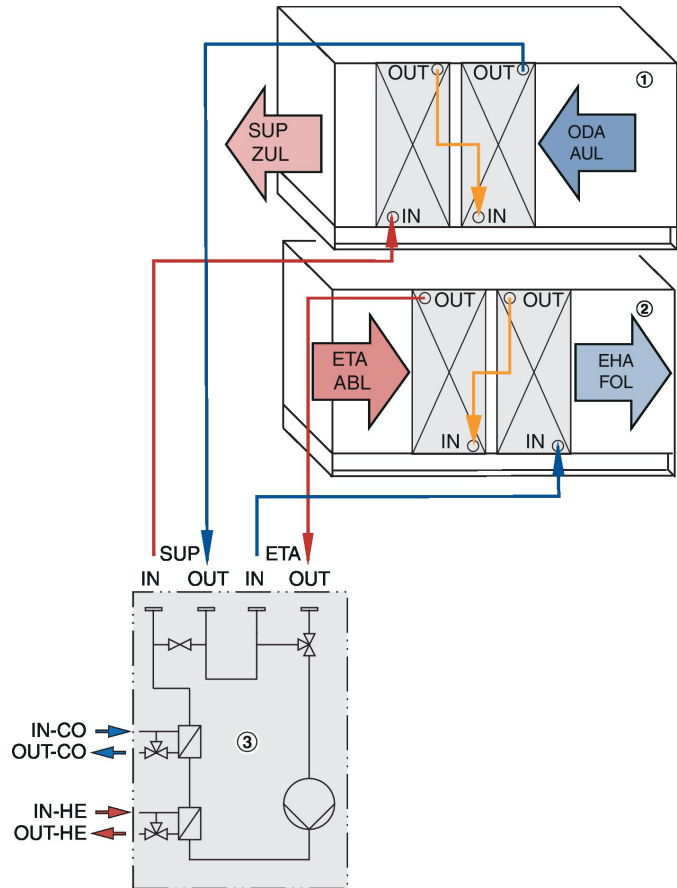

Fig. 35: Hydraulic system connection (example)
- ① Supply air unit
- ② Extract air unit
- ③ hydraulic unit
- ▶ Connect the heat exchanger with the hydraulic unit (Fig. 35).
- 4 ▶ Run-around coil systems with external feeding: Make the required connections (Fig. 35).